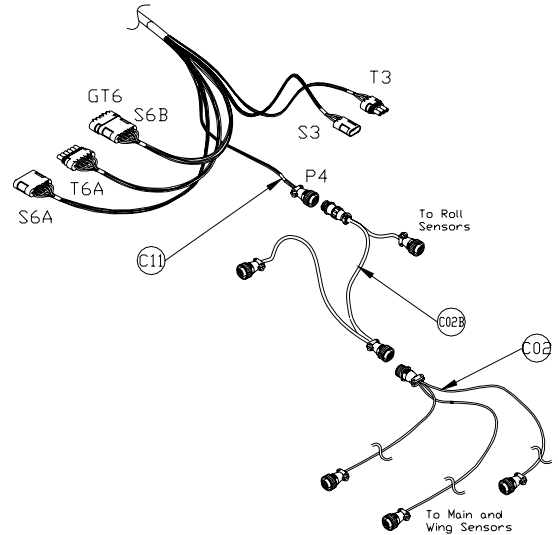

Figure 24 – Cable Configurations: C11, C02 and C02B
14. Connect the CAN Node cable (**C02B**) to the 4-pin AMP plug on **C11** (**Figure 24**).
17. Connect the sensor branch cable (**C02**) to the 4-pin AMP plug on **C02B** (**Figure 24**).